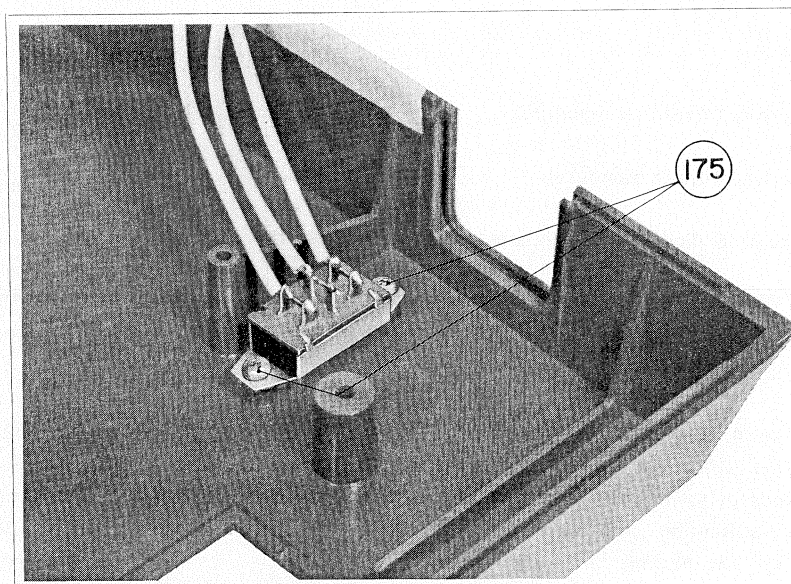

Fig. 1-2
- (1) Remove 4 setscrews 168 by means of a plus (+) screw-driver.
- (2) Pull AC input jack 320 in the direction indicated by the arrow mark (⇒) and remove it.
- (3) Remove two setscrews 175 securing Voltage Selector Switch in place (Fig. 1-2). (Applicable to TP-713H & TP-721H only)